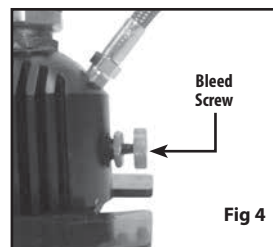

Fig 4
- Make certain the bleed screw on the hand pump is fully closed (tighten in a clockwise direction) (Fig. 4).